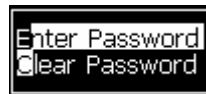
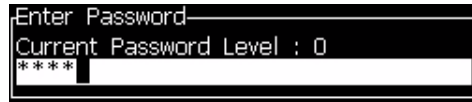

Figure 4-3: Enter Password
Figure 4-4: Level 0 Password
- 2 Press *Alt + w*. Select the *Enter Password* (see Figure 4-3) option and press the *Enter* key. Alternatively, press *F3* in the Main screen. The *Enter Password* screen appears (see Figure 4-4).